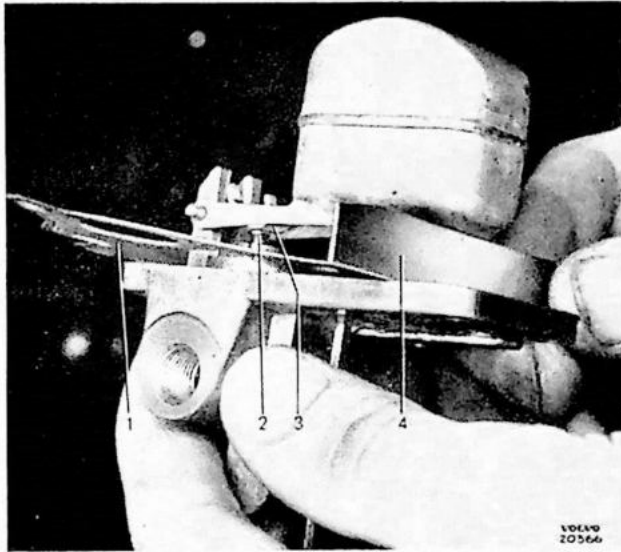

Fig. 89.
The float level is checked by means of gauge T 109—80, or a 9.5 mm wide feeler gauge (4, Fig. 89), which is placed between float and bowl cover. Turn gasket aside for the check. The tongue shall bear on the needle valve (2) without exerting a load on it.